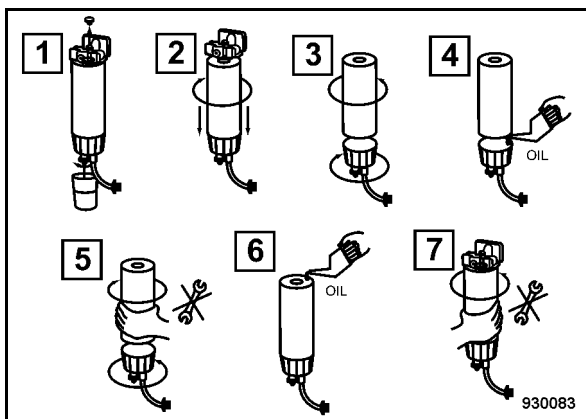

Fig. 160
- Tighten the cable on the water separator (Fig. 160).
- (1) Loosen the bleeding screw and drain off fuel from the bleeding screw.
- (2) Loosen and unscrew the fuel pre-filter cartridge using an appropriate filter wrench.
- (3) Unscrew the water separator from the filter cartridge.
- (4) Apply a thin coat of oil to the rubber seal of the water separator.
- (5) Turn the water separator on by hand, until the seal contacts, then tighten hand-tight.
- (6) Apply a thin coat of oil to the rubber seal of the filter element (5).
- (7) Turn the filter cartridge on by hand, until the seal contacts, then tighten hand-tight.